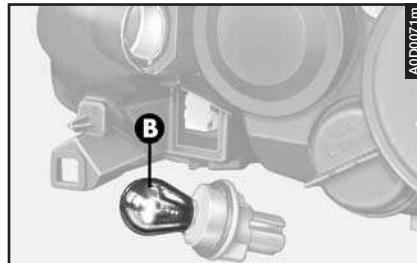

fig. 36
- Remove the bulb (**B**- **fig. 36**) from the bulb holder, pushing it slightly and turning it counter-clockwise.